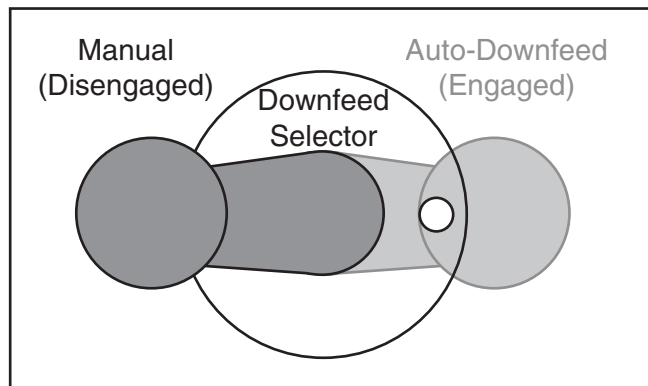

Figure 45. Downfeed selector in manual (disengaged) position.
2. Make sure spindle is completely stopped, then pull downfeed selector out and rotate it until it seats in manual (disengaged) position (see **Figure 45**).
2. Make sure spindle is completely stopped, then pull downfeed selector knob out and rotate it until it seats in manual (disengaged) position (see **Figure 45** on **Page 41**).